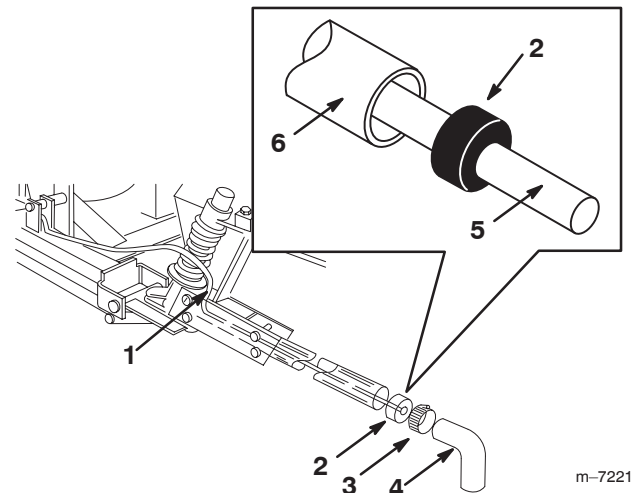

Figure 12
6. Insert the boom hose into the hole drilled in the right boom pipe and push it into the boom pipe until **2 to 3 inches** of boom hose **extends beyond** the opposite end of the boom pipe (Fig. 12).
7. Push the boom hose through the punched hole boom cap until it **extends 2 to 3 inches past the cap** (Fig. 12).
8. Install the boom cap into the end of the boom pipe (Fig. 12).
9. Lubricate the inside of the extension hose and slide it over the cap and boom hose and onto the boom pipe (Fig. 12).
10. Secure the extension hose onto the boom pipe with a large hose clamp (Fig. 12).